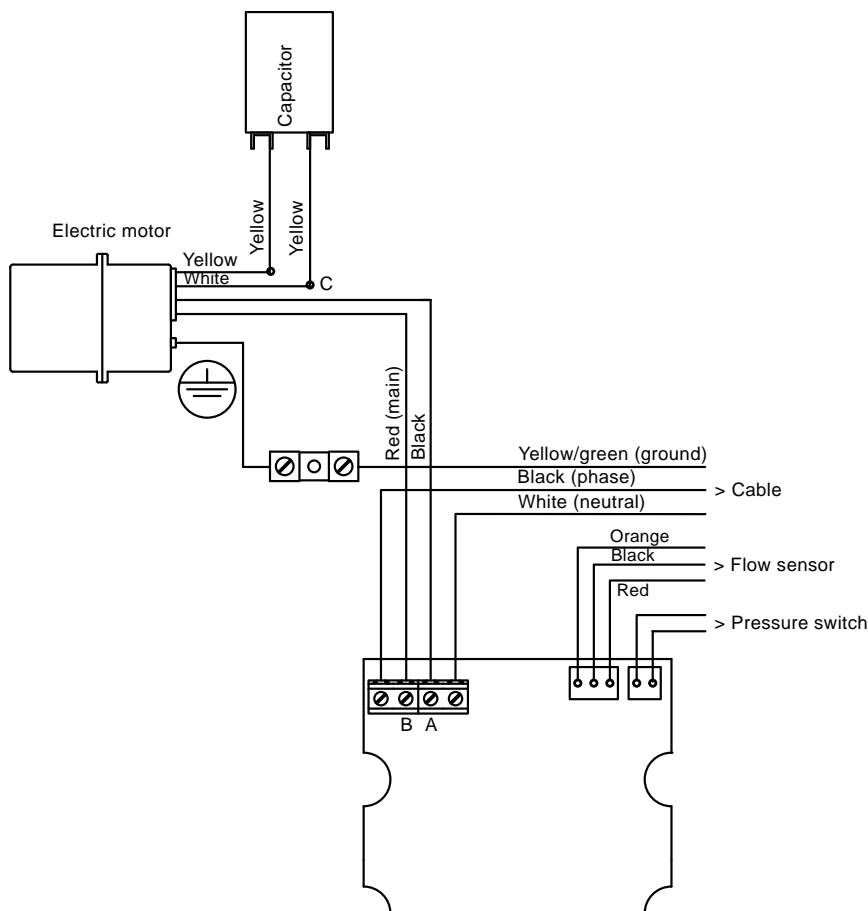

Fig. 14 Wiring diagram - 115 V
*Do not start the pump until it has been filled with water (primed, see fig. 14).*